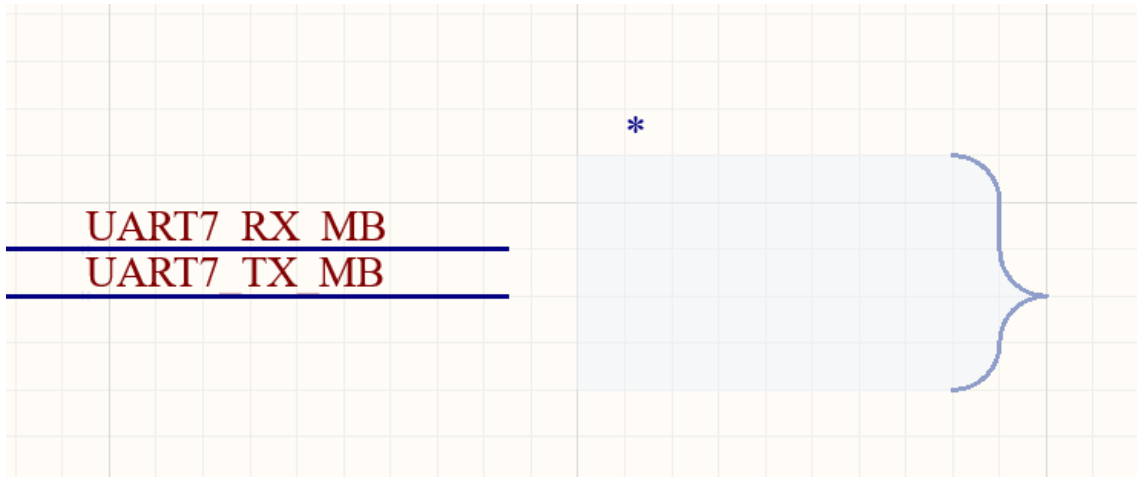

Figure 5. Place Harness Connector
- d) Right-click to end the command once satisfied. The Harness Connector should look similar to Figure 5 below. The size can always be adjusted on the fly after it has been placed.